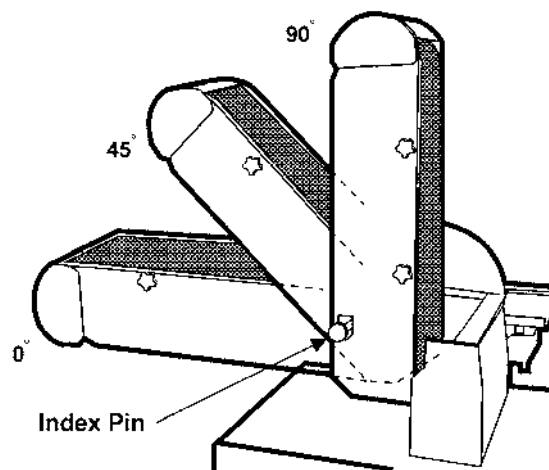

Figure 17
2. Pull out on the index pin (Figure 17), and swing the belt arm into the desired position. Then release the index pin.
Flat surface and contour sanding can be done in the horizontal, 45-degree, and vertical position of the belt arm. To change position, pull out the index pin and swing arm to the desired position, then release index pin (see Figure 17).